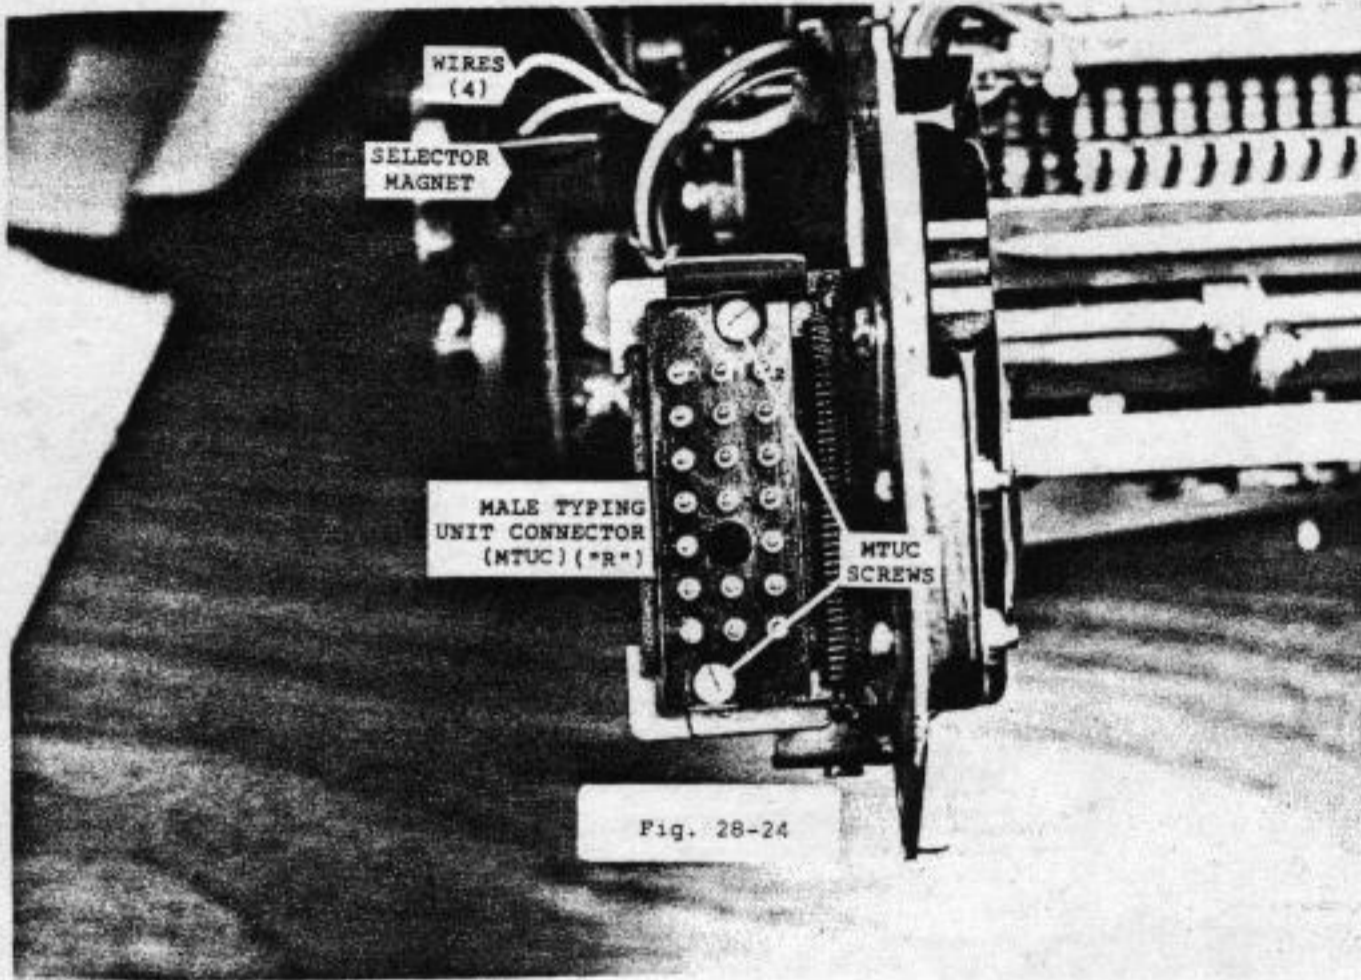

Fig. 28-24
1. Remove wires that are connected to the selector magnets (Fig. 28-24).
3. Remove the two screws that mount the connector to the typing unit (Fig. 28-24).